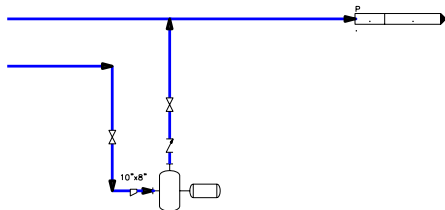

Figure 2-85 Off page connector placed at the endpoint of the pump outlet line
2. Place the off page connector at the endpoint of the line connecting the pumps, as shown in Figure 2-85.